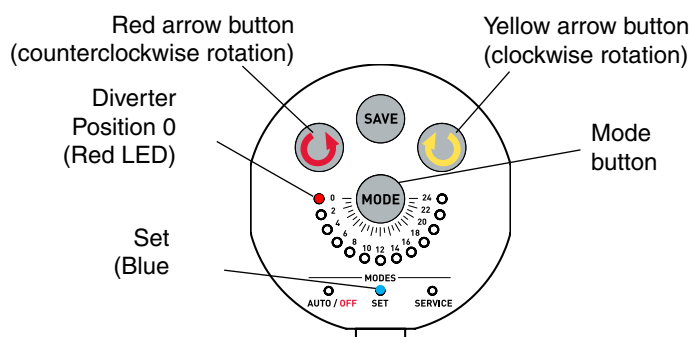

Figure 9. Home position 0 LED (Default Setting)
2. Press the MODE button until the SET LED is ON. The 0 LED should illuminate. Press the SAVE button to set the open position of the valve, the Red LED will flash. See Figure 9.
4. Press the SAVE button. All the LEDs in the path of travel will flash five (5) times, then the LED for the last set end point will remain on.